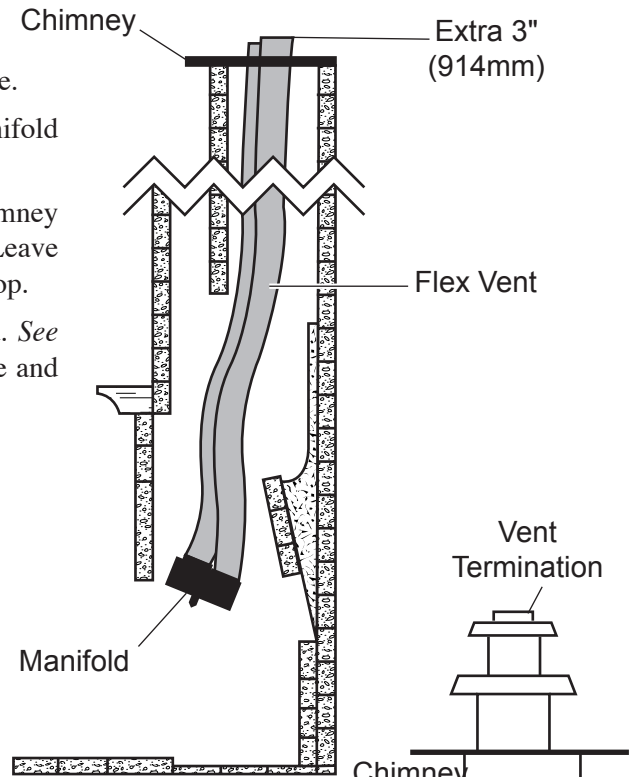

Figure 11 - Attaching Flex Vent to Manifold
4. Attach flex vent to manifold. *See Figure 11*. Seal with silicone and attach with screws.